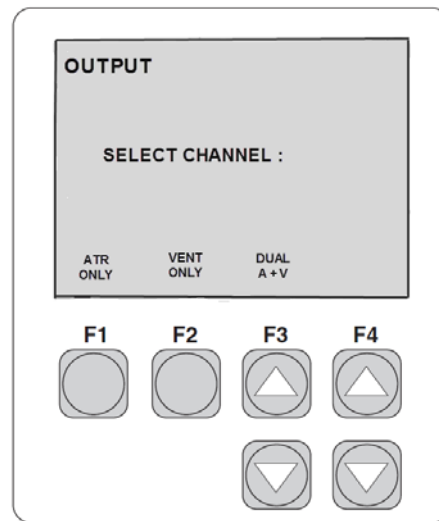

Figure 4
- The analyzer will perform a brief calculation, and then it will begin to display the pacer’s (5392) RATE along with values for “Amp”(Output), ”Rate”(beats per minute), “Width” (Pulse width), “AV Int” (AV Interval), note there is a column for the A (Atrial) and a column for V (Ventricle), channels. Figure 4.
Note: The A/V interval will be measured in the PULSE OUTPUT screen, (see Figure 4) of the SigmaPace 1000 and can be verified while doing the Rate, Output and Pulse Width Testing.
****Complete the Emergency DOO test from the “Pulse Output” Test Screen on the Sigma Pace 1000, Per Figure 4 above. Use test points and tolerances below, for the Emergency DOO test.**